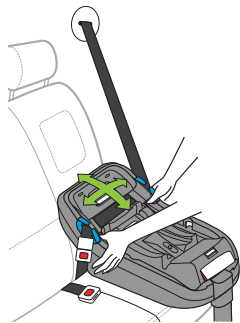

Figure 64
- While gripping the Base near the blue Vehicle Belt Guides, pull front to back and left to right to check for secure installation, as shown in **Figure 64**. Vehicle belt **MUST** stay tightly secured around Base and Base should not move more than 2.5 cm (1 in.) in any direction.